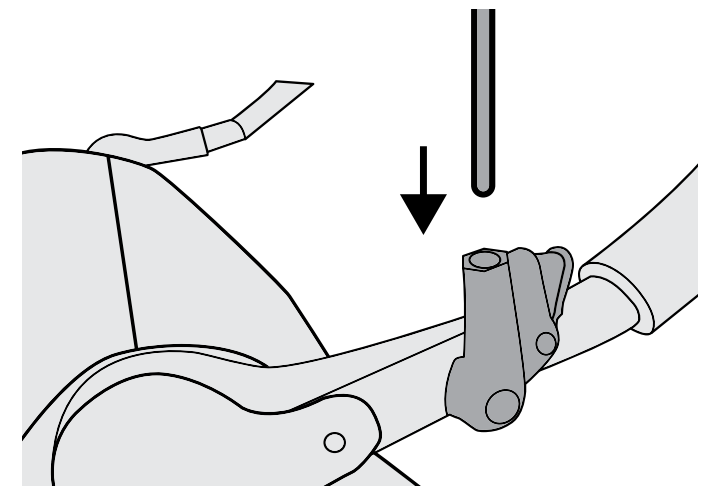

Figure 22
2. Depress the yellow button and slide the flag pole into hole on flag holder. To release, push button and lift flag pole out (Figure 22).